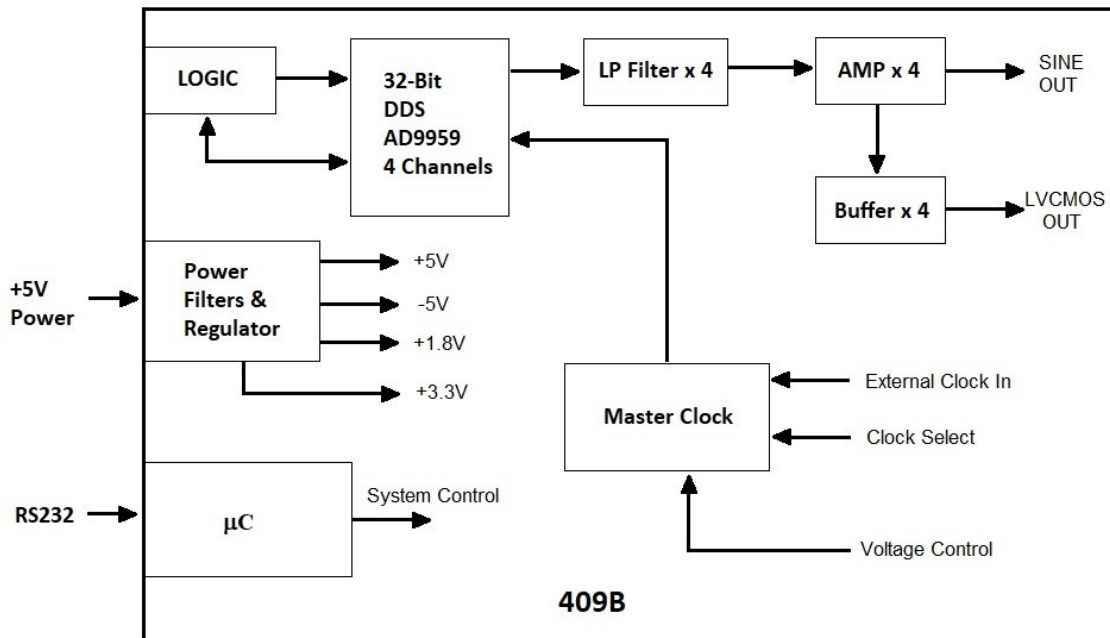

Figure 1
5.1 Block Diagram. Please refer to the simplified System Block Diagram in Figure 1 for the following discussion.